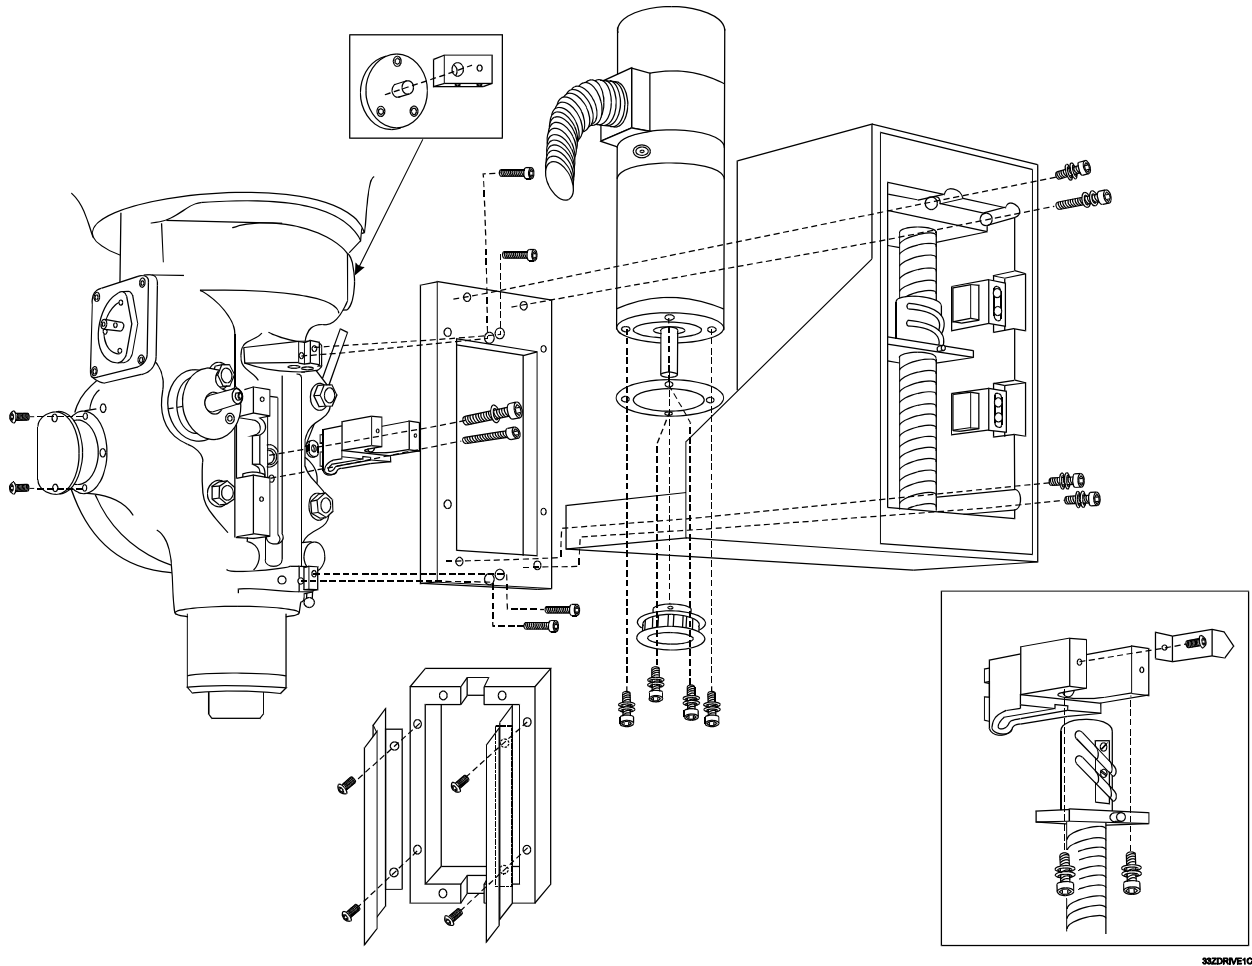

Figure 3-21, Z Axis Exploded View
1. Remove the spindle. Keep the quill lock snug to prevent the quill from coming out of the machine. Refer to **Figure 3-21, Z Axis Exploded View**. In the Z-Axis Hardware Kit, P/N 31500690, locate the quill drive block P/N 67201137; the drive block key, P/N 67200454; the 3/8-24 x 1-3/4-inch Allen screw, P/N 86100577; and the 3/8-inch lock washer, P/N 86300179.